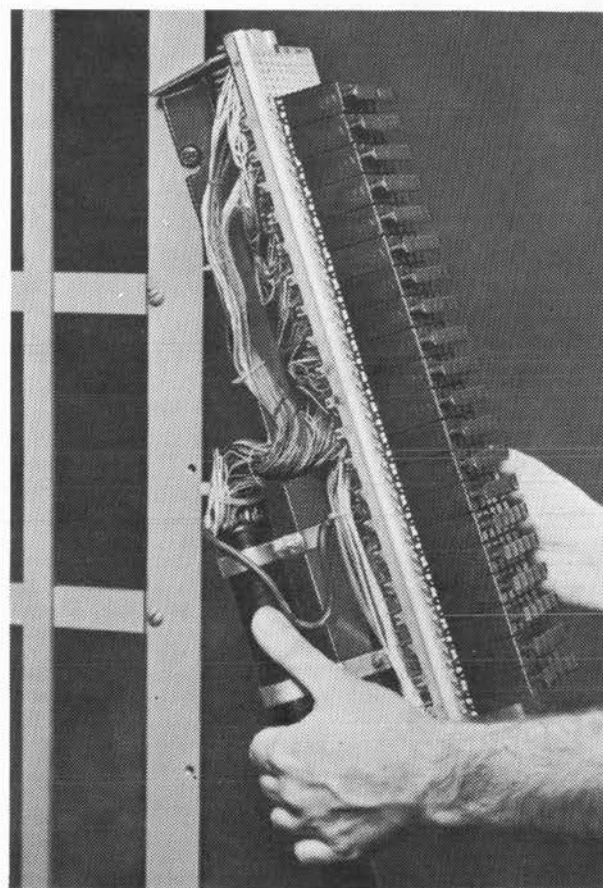

Figure 9
5.04 Attach the C-303 Connectors to the left side of the distributing frame vertical mounting bar, beginning at the lower end of the frame. Use the screws furnished with the connectors. Place the top screw in the vertical mounting bar for the connector. Hang the connector on this screw using the key-hole slot on the C-303 mounting bar. (See figures 9 and 10.) Screw in the remaining screws after hanging the connector.